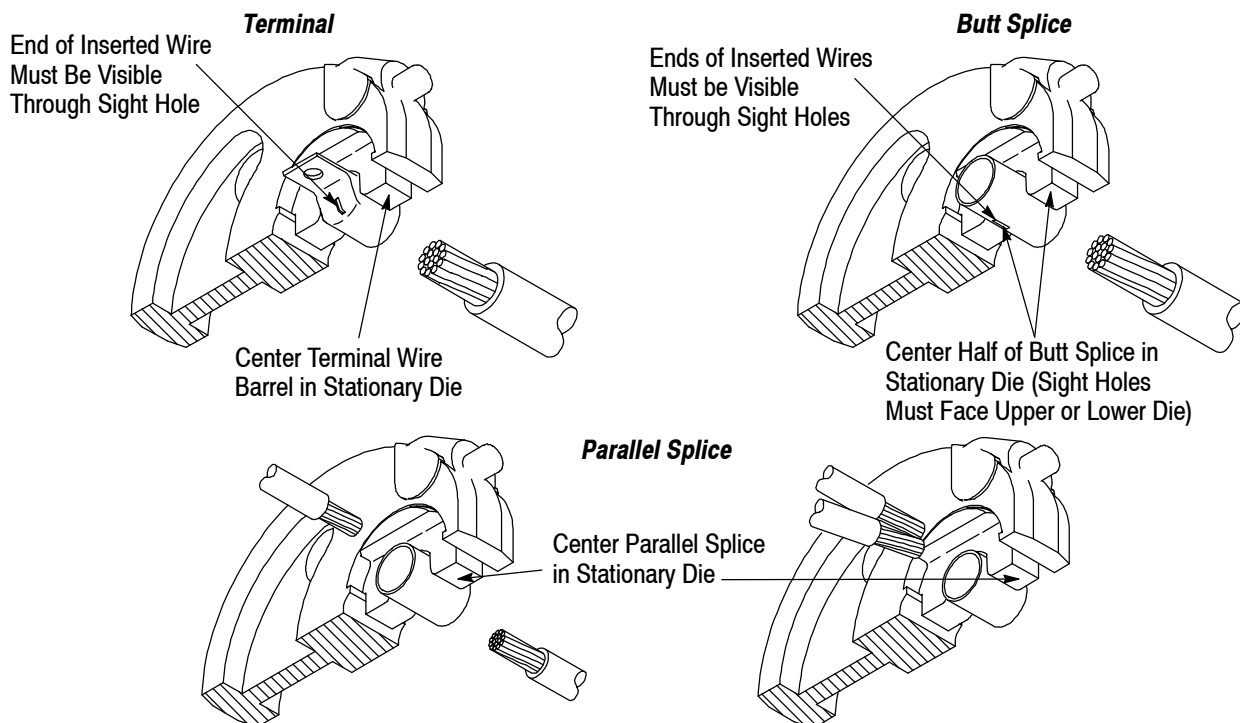

Figure 4
2. Center the terminal or splice in the stationary die as shown in Figure 4.